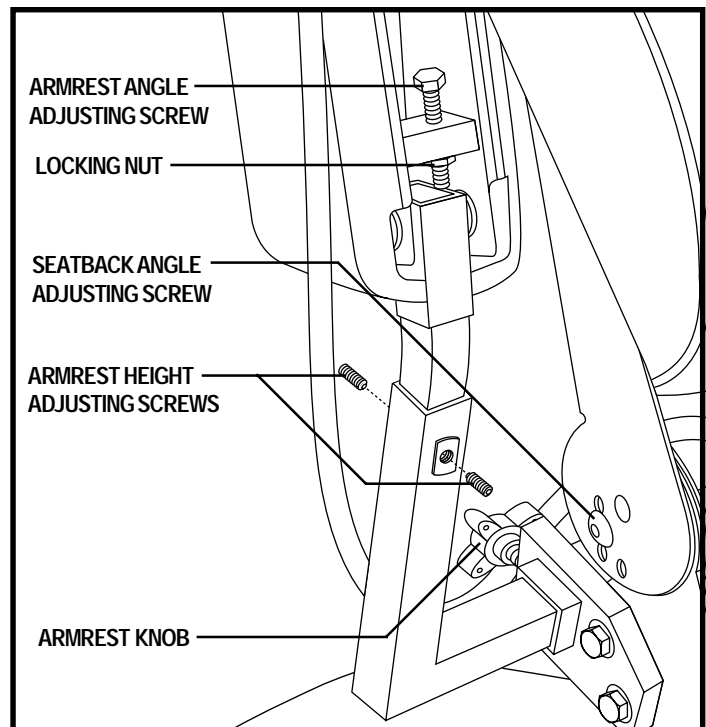

Figure 17. Seatback Angle Adjustment
1. Remove the adjusting screws from each seat hinge. See figure 17.
1. Locate the two armrest knobs on each side of the armrest receiver bracket. See figure 17.
1. Lift the armrest straight up so that it is perpendicular to the floor. See figure 17.
1. Loosen the two setscrews located on the armrest receiver. See figure 17.